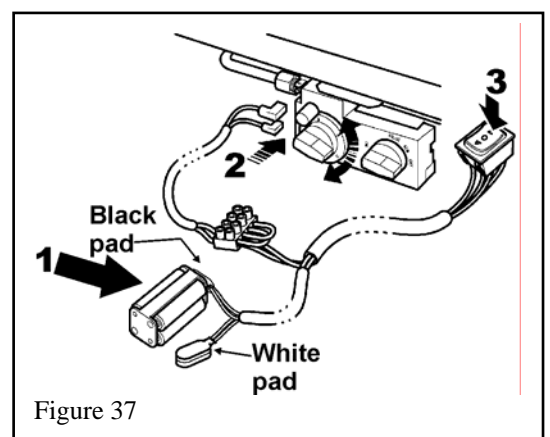

Figure 37
2. Temporarily connect the **black** connector pad to the control unit – See figure 37.
3. Operate the switch. This should cause the flame control knob to rotate counter-clockwise. See figure 37.